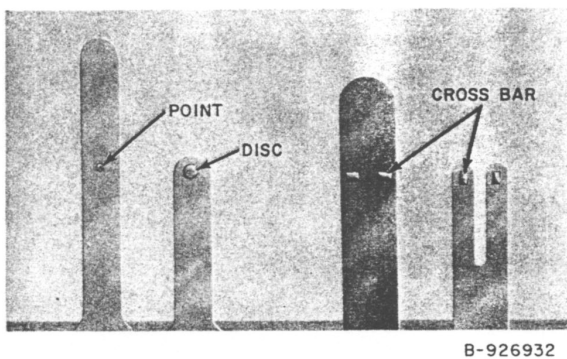

Fig. 5—Point, Disc, and Crossbar Contacts
**3.01** Point and disc contacts shall line up so that the point falls wholly within the circumference of the opposing contact disc (Fig. 5).
**3.02** Crossbar contacts shall line up so the width of one falls wholly within the contact surface of the other (Fig. 5).